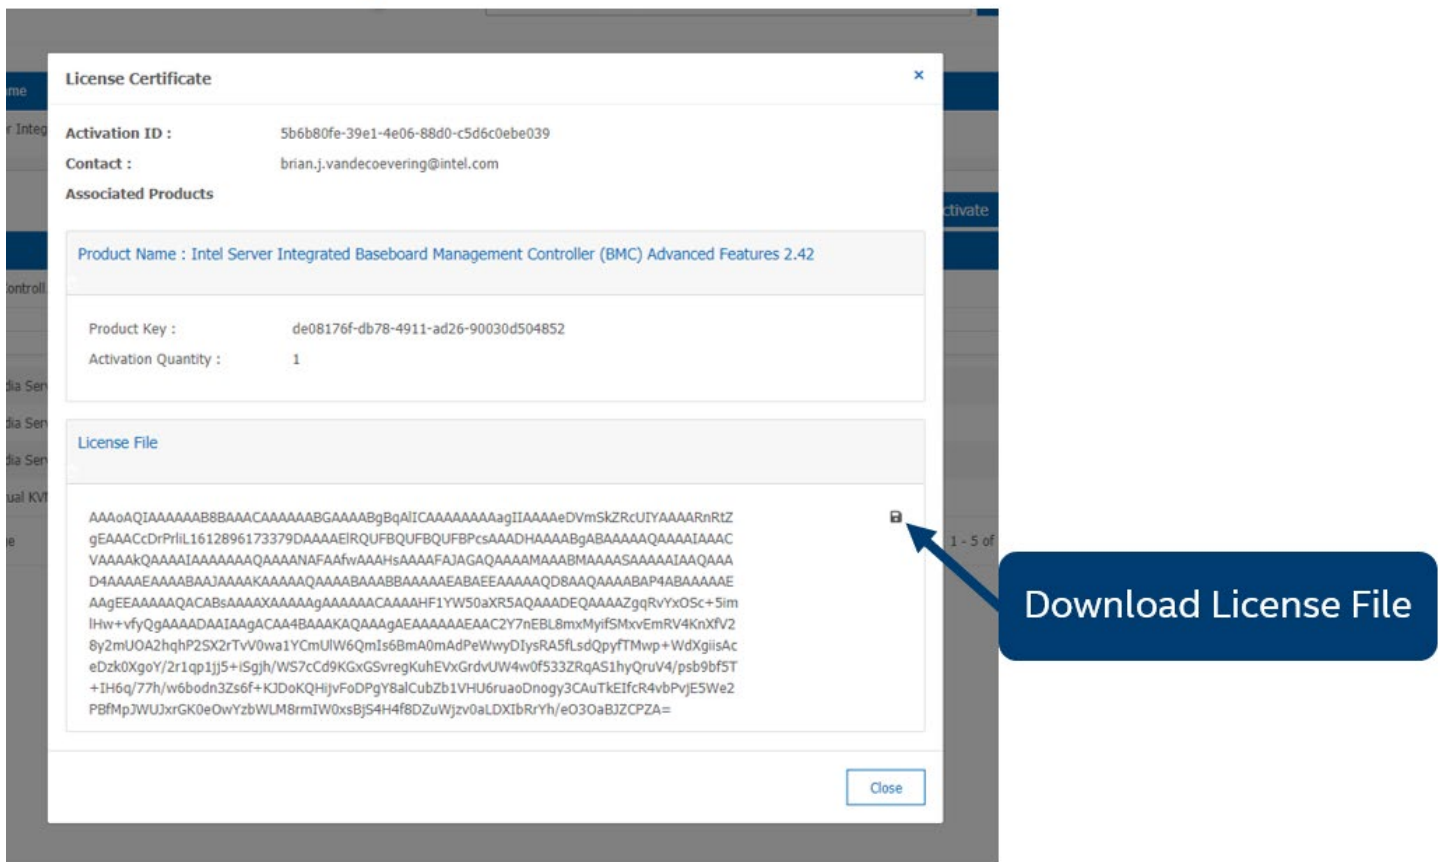

Figure 55. Download Key
7. Download the license associated with the specified product key (see Figure 55)